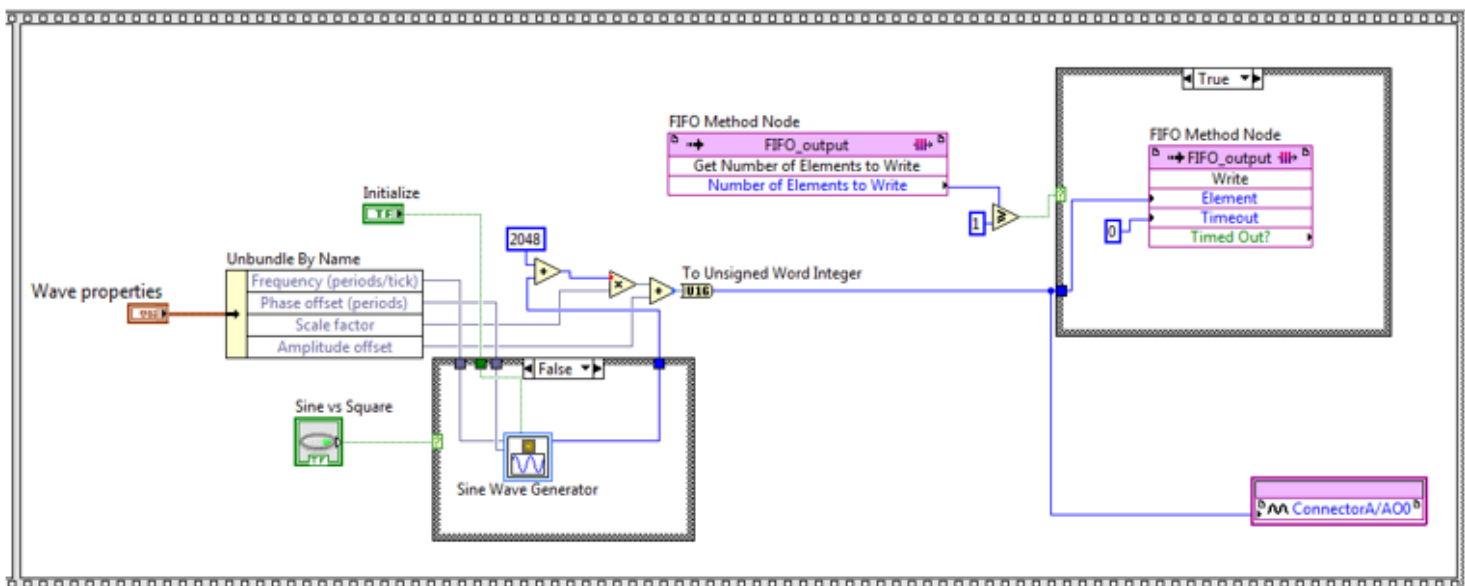

Fig. 4. Second cell of flat sequence.
- 6) Add a **new cell to flat sequence**. The inside of this cell is shown in Fig. 4. You will get the input parameters from the CPU VI.
- 10) In the Fig. 4, the False case corresponding to sinusoidal output is shown. Using **another Sine Wave Generator**, complete the inside of the **True case** by generating a **square wave with -2048 and 2048 levels**. As a hint, you can use **Select** function in order to decide whether 2048 or -2048 will be generated by looking at the sine value.
- 11)** Generate a FIFO called **"FIFO_output"** for **transferring the samples of waveform to the CPU memory** through a DMA operation as shown in Fig. 4 by following the same steps in Experiment 2. The type of FIFO_output is **"Target to Host – DMA"** and data type is **U16**.